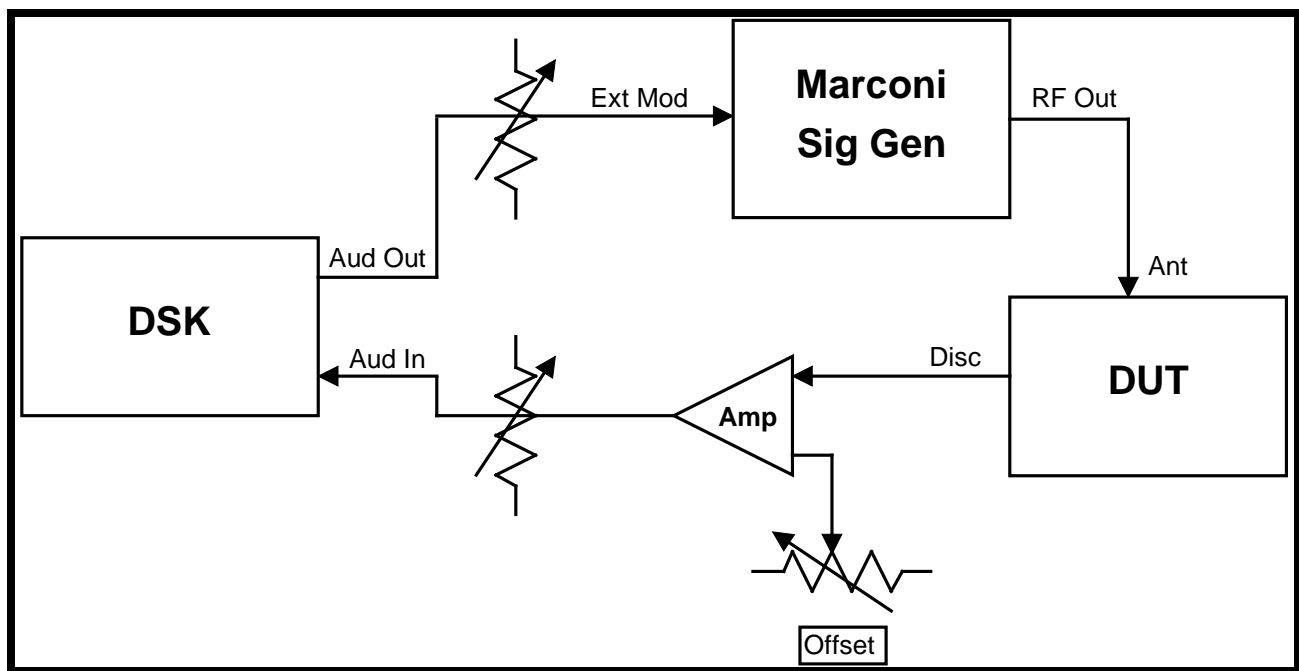

Fig. 6.3-1 — Fig 1.
6.3.2 Test initialization and hook-up (See Fig. 6.3-1)